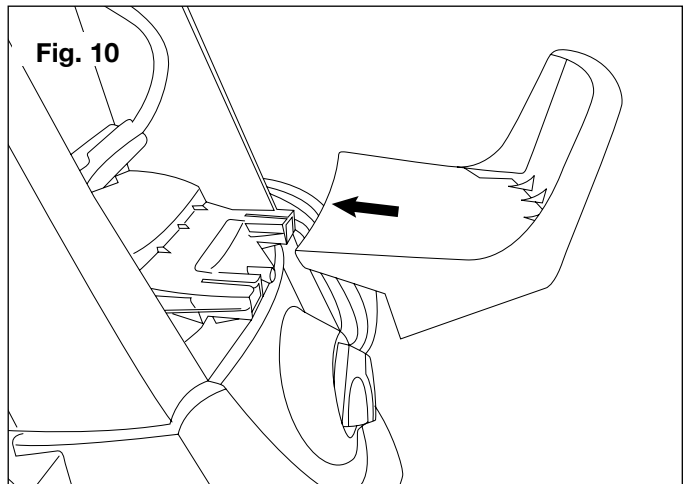

**Fig. 8**
7. To assemble the spray wand protector, snap the tab into the slot located at the bottom left side of the unit and secure it in place with small screw (Figs. 8 & 9).